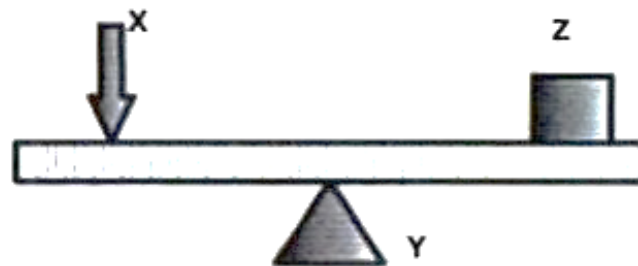

Figure 12
- (d) Identify the parts labelled X, Y and Z in **Figure 12** below: